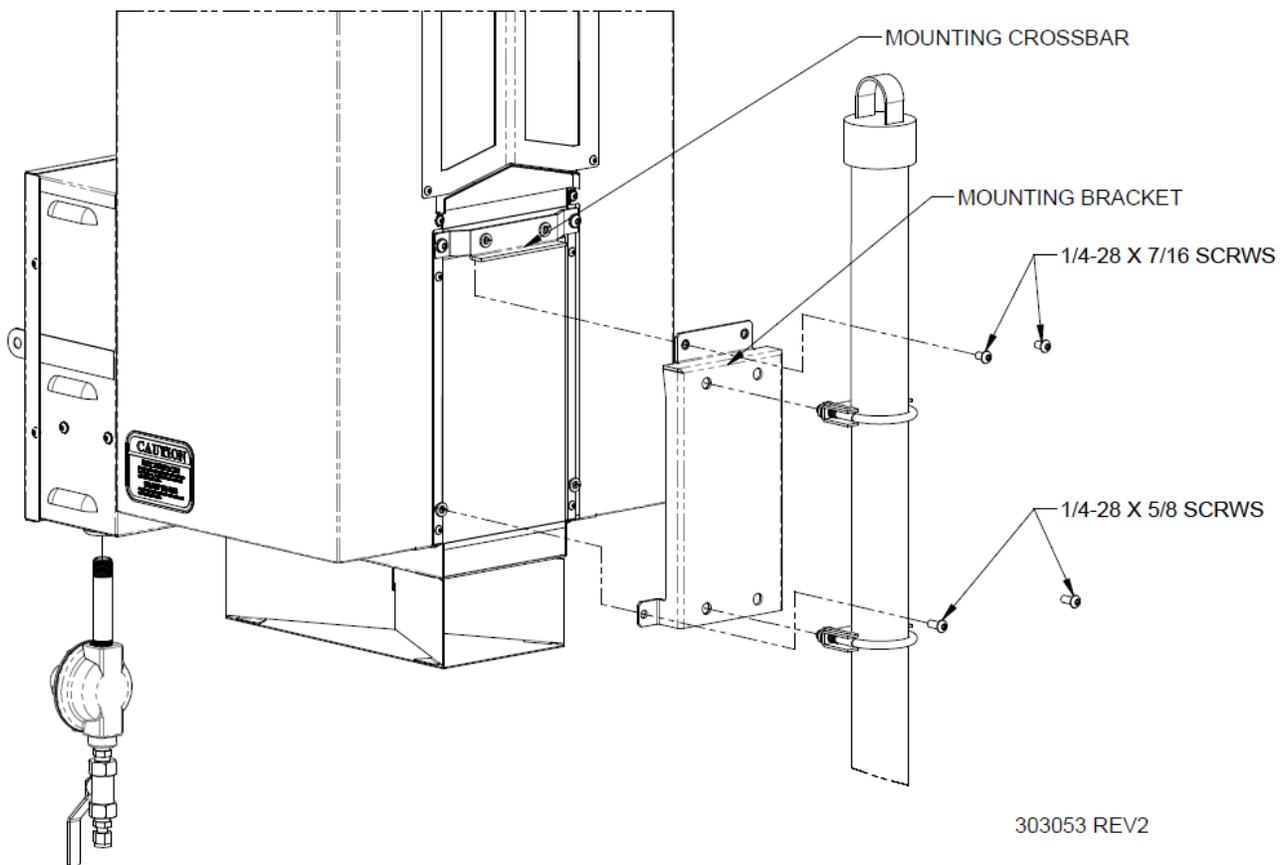

Figure 6 – Mounting the Sentinel TEG
Separate this mounting bracket, with the supporting plywood, from the back of the Sentinel TEG by removing those four **BUTTON SOCKET CAP 1/4-28** machine screws (Refer to Figure 6, two short **1/4-28 x 7/16** screws are fastened on the mounting crossbar, and two long **1/4-28 x 5/8** screws are fastened on the other end of the mounting bracket). Keep these 4 machine screws for mounting.
2. Attach the Sentinel to the mounting bracket by sliding the mounting crossbar over the mounting bracket tap, as shown in Figure 6 ensuring that the Sentinel is in an upright vertical position.
4. Refer to Figure 6, secure the Sentinel TEG to the mounting bracket by replacing those 4 BUTTON SOCKET CAP 1/4-28 machine screws.